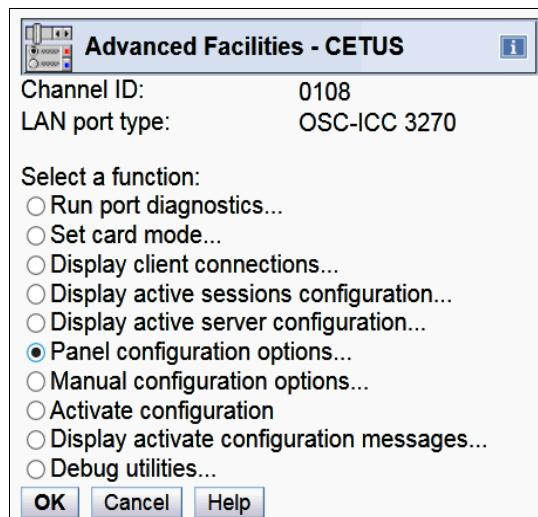

Figure 7-2 Panel Configuration Options
3. Select **Panel configuration options** and click **OK** (Figure 7-2).